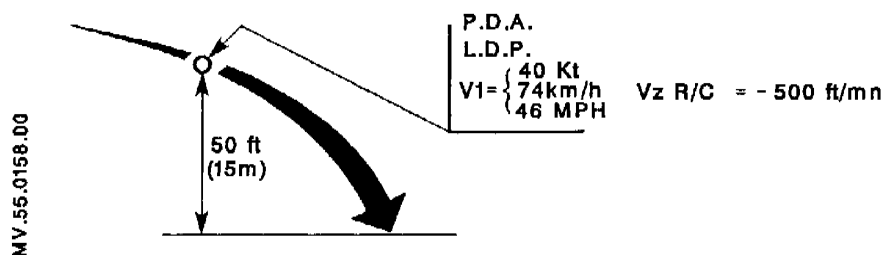

Figure 3
3.2.1 Normal landing procedure (figure 3)